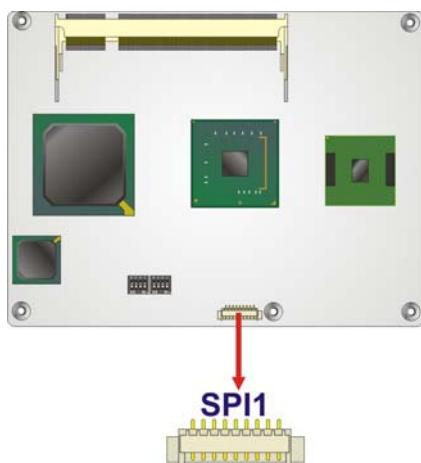

Figure 4-6: SPI Flash Connector Location
**CN Location:** See Figure 4-6